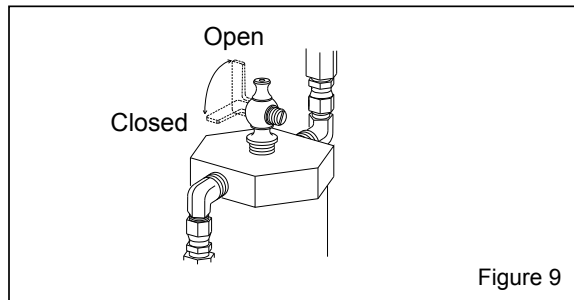

Figure 9
3.1.2 Make sure that the safety petcock located on the inlet valve is open. The petcock is open when the petcock lever is in-line with the petcock, as shown in Figure 9.